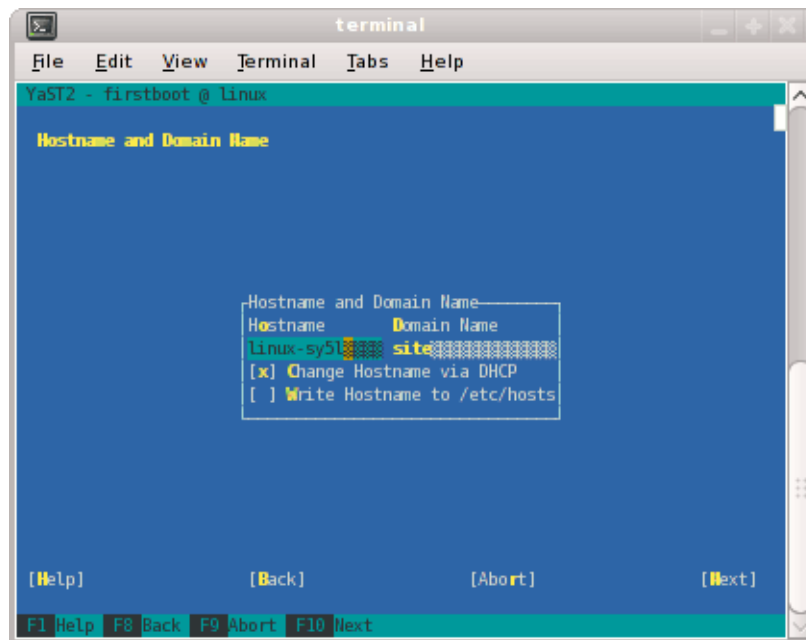

Figure 2-3 Hostname and Domain Name Screen
6. From the **Hostname and Domain Name** screen, as shown in Figure 2-3 on page 41, enter the hostname and domain name of your system in the appropriate fields. Make sure that **Change Hostname via DHCP** is **not** selected (no **x** should appear in the box). Note that the hostname is saved to `/etc/hosts` in step 10, below. Click the **Next** button to continue.